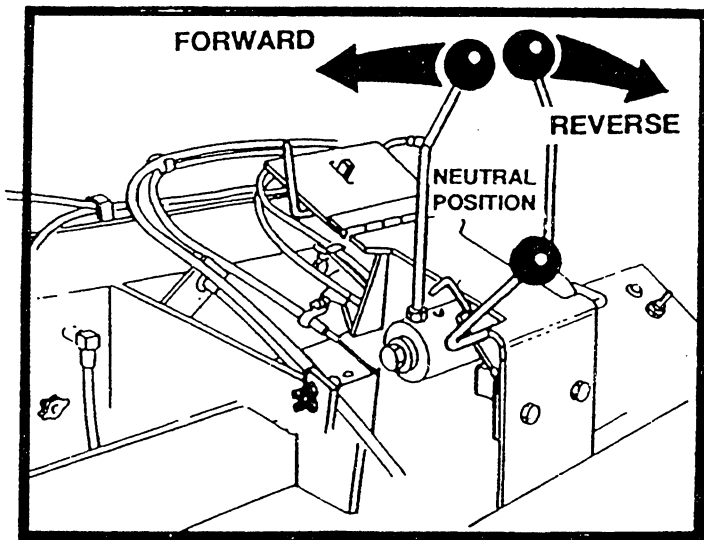

FIGURE 3
The forward/reverse plus turning will require exact movement. The steering levers along with the interconnected hydraulic components make possible the positive control necessary. The following procedure plus illustrations in figures 3, 4 and 5 will provide working knowledge of operating the paver through forward/rearward and turning requirements.
2. To drive the paver forward, push the steering levers together from the neutral position forward, likewise to drive to the rear, pull the steering levers toward the rear from the neutral position. Refer to figure 3.